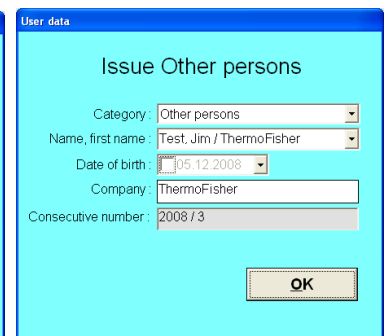

Figure 3
6. Press button OK. A window with the entered data appears, giving you the possibility to check up the just made records (Fig. 3).